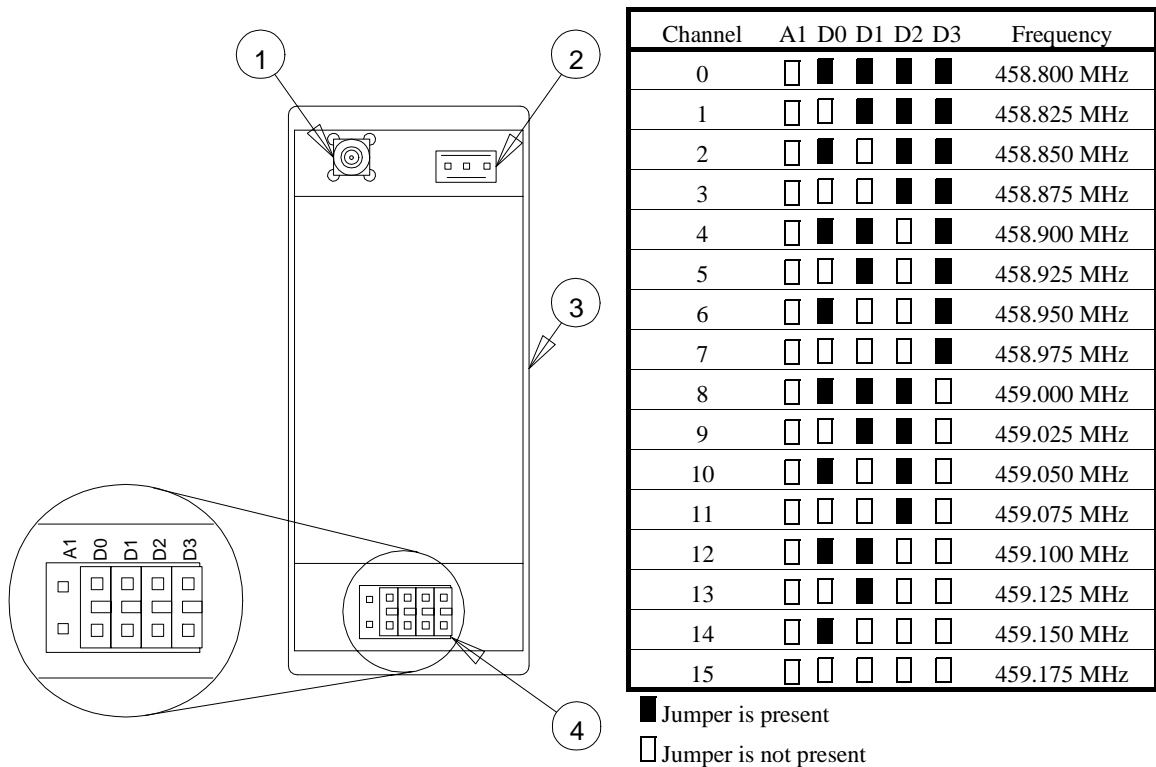

Figure 2.17: Receiver Frequency Channel Diagram
The PulseStar•610 transmitter and receiver operate over the 400—470 MHz frequency range (70-cm band). There are 16 possible frequencies and 16 corresponding channels available. Figure 2.17: Receiver Frequency Channel Diagram shows each channel, its respective frequency, and the position of the five jumpers according to the diagram for the frequency channel you are setting.
3. Reference Figure 2.17: Receiver Frequency Channel Diagram to locate the Frequency Channel Jumper Block located on the Standard RF Module.
4. Set the frequency channel jumpers according Figure 2.17: Receiver Frequency Channel Diagram for the appropriate frequency channel. A black box indicates that a jumper should be present in that position. A white box indicates there should be no jumper present in that position.